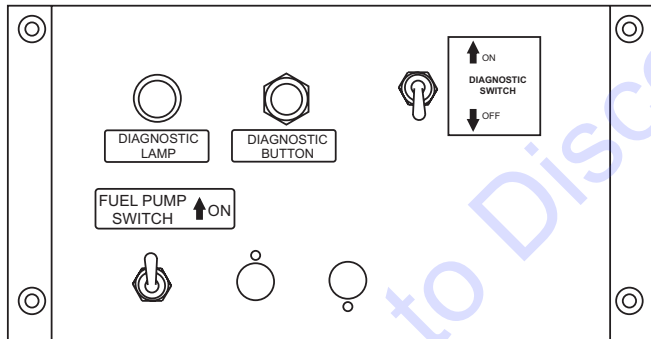

Figure 75. Diagnostic Panel
5. To start the diagnostic process, place the **diagnostic switch** to the **ON** (Figure 75) position.